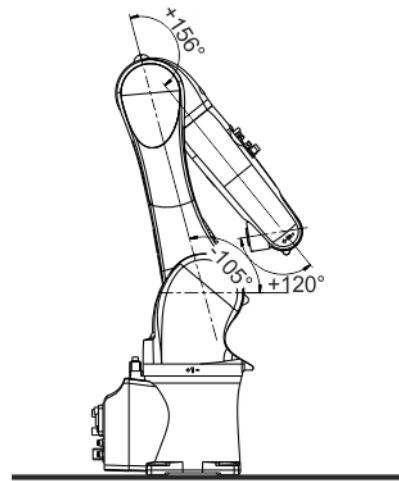

Fig. 11-3: Transport position
3. Put the robot into operation and move it into the transport position (**>>> Fig. 11-3**).